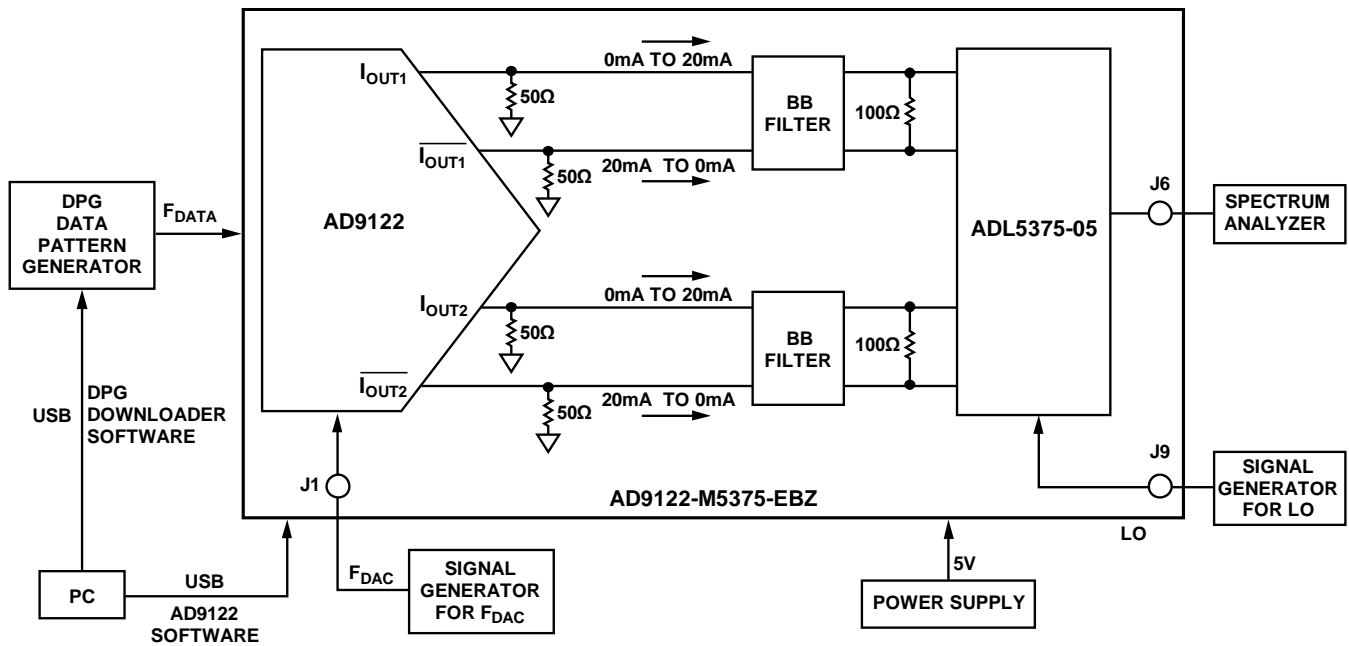

Figure 16. Test Setup Functional Block Diagram
1. Connect the setup and measurement system shown in Figure 16.